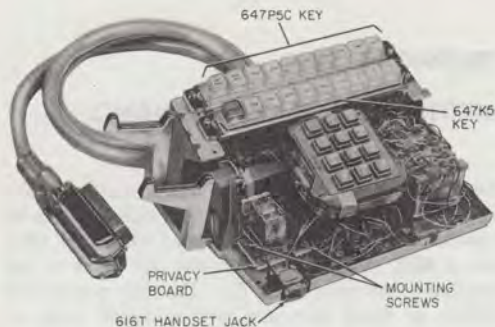

Fig. 2—2833BM Telephone Set Base
they have been adapted for wall mounting. The modular sets will all be equipped with a G15A-50 handset and H4DU-50 handset cord which will plug into a 616T jack mounted on the left front of the telephone set base (Fig. 2). Current production models of these sets also are equipped with an improved line switch and an automatic button restoral (ABR) feature. Some early production BM and CM sets were not so equipped.
2.02 The 833B (MD), or 833BM, 833DM and 2833B (MD), or 2833BM, 2833DM telephone sets are equipped with a 647K5 key in the lower key position consisting of a hold button, six line buttons, and three intercom buttons. A 647P5C key is located in the upper key position consisting of a RECALL button, a Privacy Release (PRIV RLS) button, and eight line buttons. The privacy circuit board is factory installed and wired (Fig. 2).
(1) Mount privacy circuit board on the two standoffs located at the left front of the telephone set base (Fig. 2) using mounting screws furnished with the telephone set.
(2) Refer to Table C for connections.
(3) To test privacy circuit refer to 3.06.